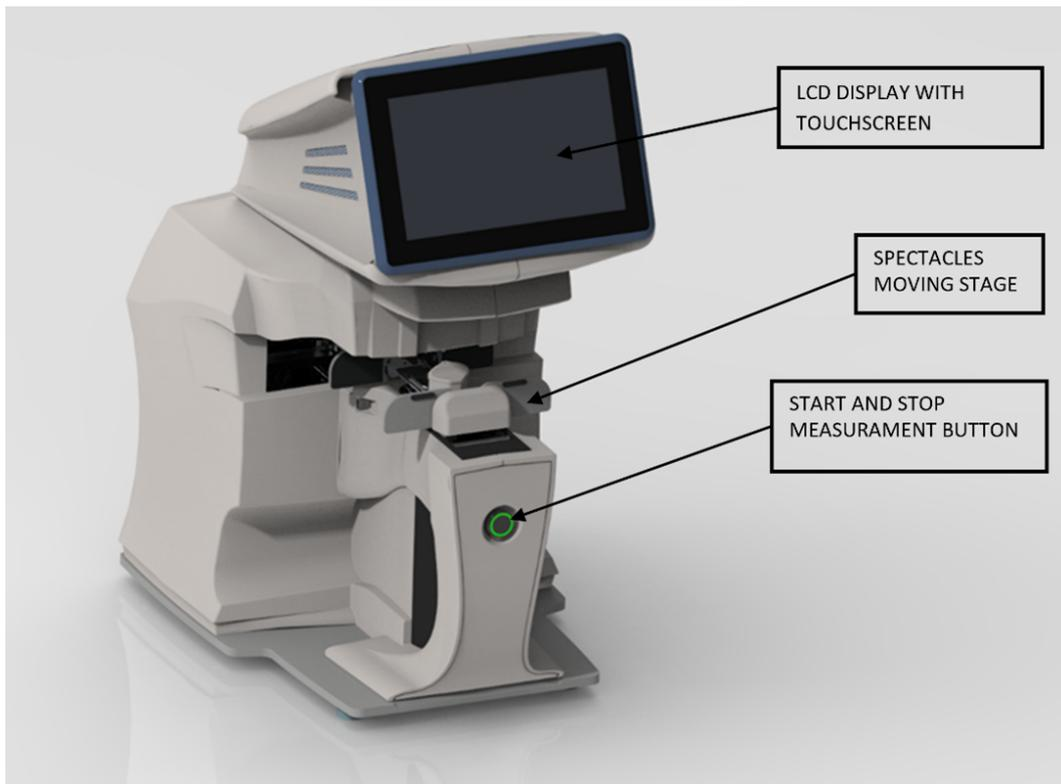

Figure 2: SOLOS main components
- Regularly (once per day) clean the external device components (see figure 2) removing dust using a soft cloth. In the case of more persistent surface dirt, use a soft cloth soaked with water or alcohol (70% max).
The main external hardware components are shown in Figure 2: